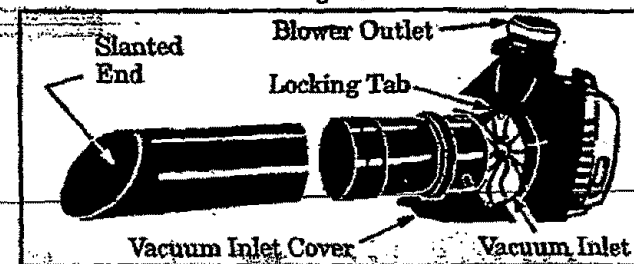

Figure 6
3. Hold open vacuum inlet cover and align the grooves on the upper vacuum tube with the locking tabs inside the vacuum inlet. Figure 6. Insert the upper vacuum into the vacuum inlet; twist the upper vacuum tube clockwise until parts snap together.
4. Assemble the vacuum tubes by aligning the slanted end of the lower vacuum tube with the blower outlet as shown in Figure 6. Push the two tubes together until they are snug. Figure 6.
NOTE: The bottom end of the lower vacuum tube is cut at an angle. Make sure slanted end of vacuum tube is aligned with blower outlet. Figure 6.